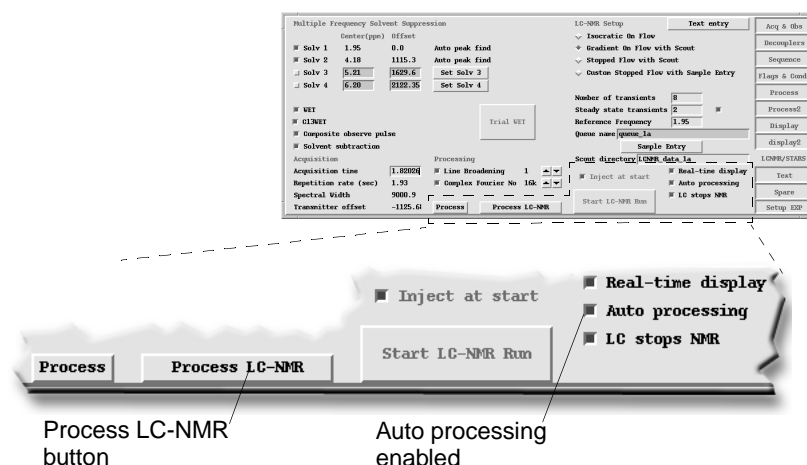

Figure 118. Process LC-NMR Button in LCNMR/STARS Pane
13. Select **Inject at Start** to have the NMR trigger the start of the LC run, see Figure 118.